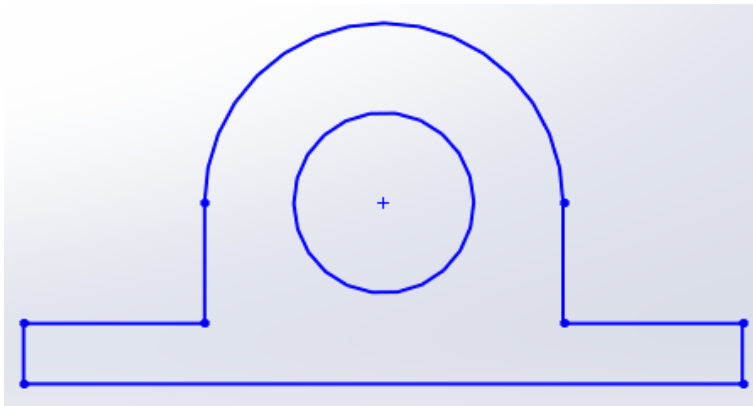

Figure 2-73 Final sketch after drawing the inner circle
5. The final sketch after drawing a circle inside the outer loop is shown in Figure 2-73.